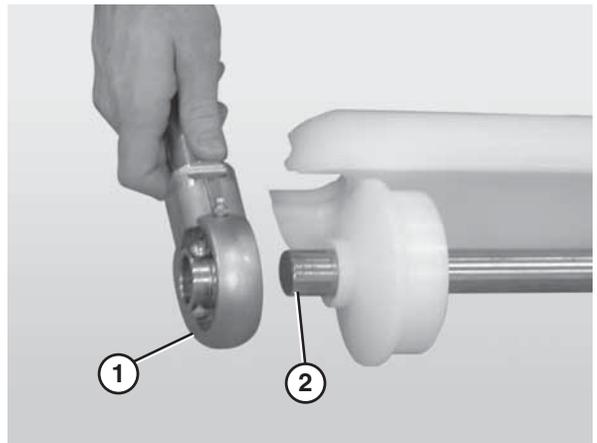

Figure 69
5. Slide the bearing shaft assembly (Figure 69, item 1) off the idler shaft (Figure 69, item 2).